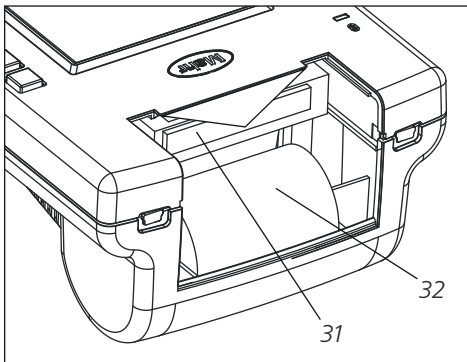

Fig. 6
1. Pull the printer cover (2) back in the direction of the arrow (see Fig. 1). Then turn the device around so that the rear side is facing forward (see Fig. 6).
3. Flip the pressure strip (31) up.
4. Insert the new paper roll (32) (5450105) into the paper compartment with the beginning of the roll down (see symbol in the paper compartment).
7. Flip the pressure strip (31) down again.
8. Replace the printer cover (2) and push it back until it locks into place. The paper must stick out over the printer cover.